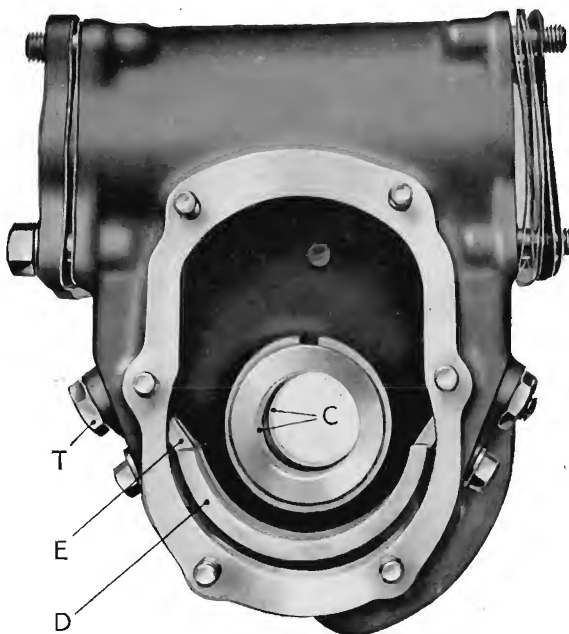

Fig. 1.
The drop arm (A), Fig. 2, is fitted on the serrated taper end of the rocker shaft (B), which is carried in bronze bushes (C), Fig. 1, the thrust being taken on a phosphor bronze bearing (D) secured in the casing by two retaining bolts (E). End play is taken up by means of an adjusting screw (W), Fig. 4. The fork (F), Fig. 2, is formed integral with the rocker shaft and carries a case-hardened roller (G) which rotates on roller bearings mounted on an adjustable pin (H). The roller engages with a cam track formed on a hardened sleeve (J) keyed on the tubular steering shaft and mounted on roller bearings (K). The steering wheel is keyed on the upper extremity of the steering shaft and the assembly is mounted in a robust trunnion bolted to the frame side-member.
Before re-assembling check that there is not excessive play in the rocker-shaft bushes; this should not exceed .005 in. If the bearing (D), Fig. 1, is worn it can be removed by taking out the two bolts (E) and a new